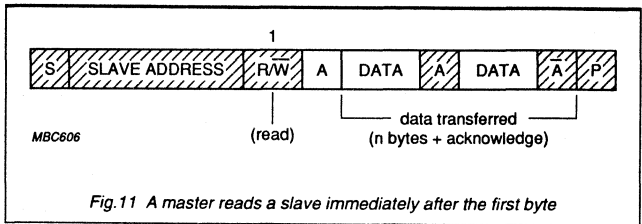

Fig.11 A master reads a slave immediately after the first byte
- Master reads slave immediately after first byte (Fig.11). At the moment of the first acknowledge, the master-transmitter becomes a master-receiver and the slave-receiver becomes a slave-transmitter. This acknowledge is still generated by the slave. The STOP condition is generated by the master.